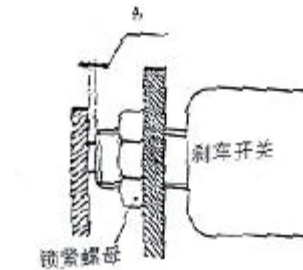

figure15
- (1) Shorten the putter
- (2) Adjust pedal limit bolt. Shown as figure 15, adjust the pedal hei